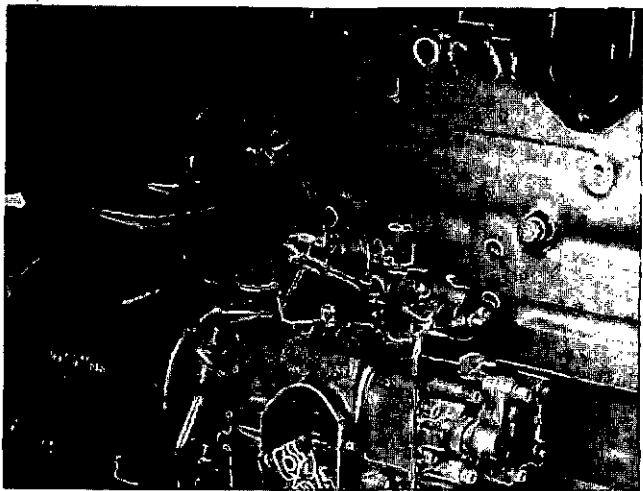

Fig. 0-24. Remove The Capscrews That Hold The Fuel Pump.
1. Remove the capscrews that hold the fuel pump to the air compressor, Fig. 0-24. Remove the support brackets.